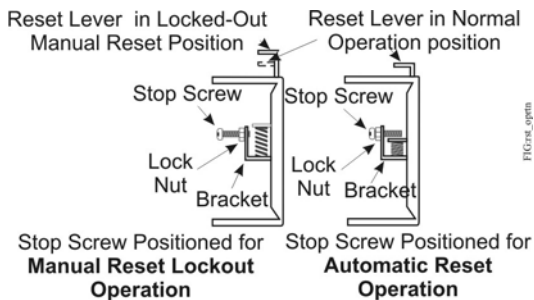

Figure 10: Setting the Convertible High Pressure Reset Mechanism (P70S or P170S)
2. **For Manual Reset Operation:** Loosen the lock nut, and unscrew the stop screw, being careful to not remove the screw completely from the bracket. See Figure 10.
For Automatic Reset Operation: Loosen the lock nut, push the reset lever down, and screw in the stop screw fully. See Figure 10.